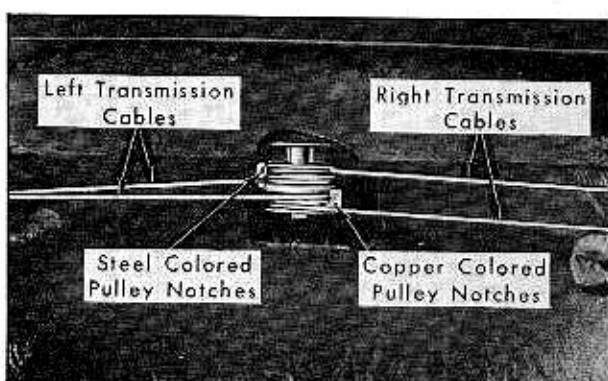

Fig. 3-8 Transmission Cable to Auxiliary Drive Pulley Attachment
6. Attach transmission cables to auxiliary drive pulley, as shown in Fig. 3-8.
IMPORTANT: Copper colored cable ends must be installed to copper colored pulley notches and steel colored cable ends to steel colored pulley notches as indicated in Fig. 3-8.